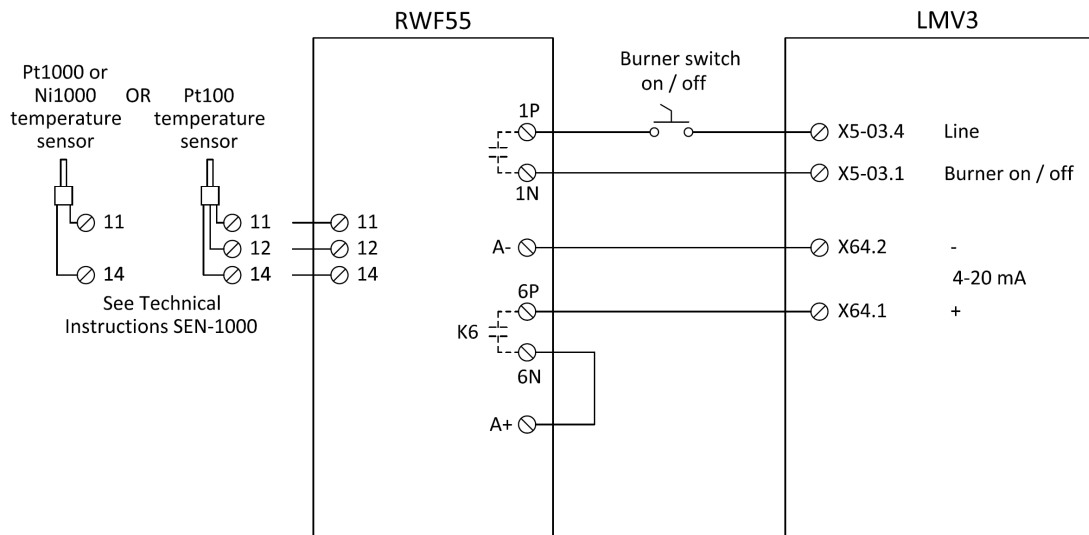

Figure 4: Low Fire Hold via Analog Output on a Hot Water Boiler
2. Wire the LMV3 and RWF55 as shown in Figure 4: